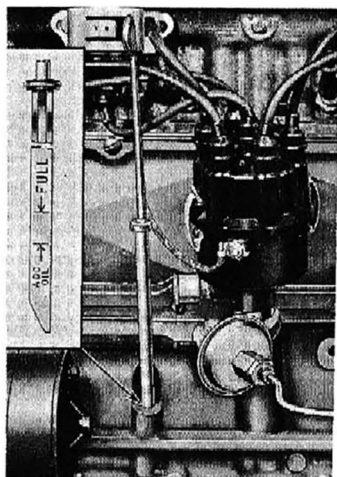

Fig. 23—Oil Gauge Rod—6 Cyl. Engine
1. Raise the hood, remove the oil gauge rod (fig. 23), wipe oil from rod with clean cloth and replace. Remove gauge rod and note level of oil. If down to the "add oil" mark, oil should be added. See "Lubrication Instructions." Install oil gauge rod.